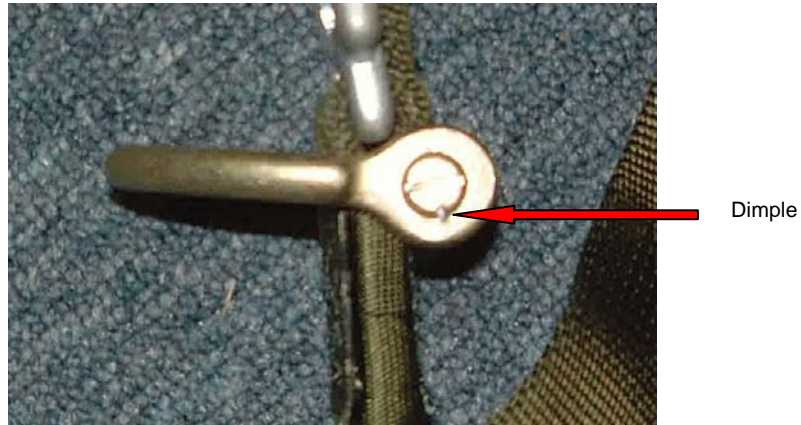

FIGURE 4
(6) Using a flat solid surface, position the tip of the center punch 90 degrees away from (or perpendicular to) the screw pin slot between the screw pin head and the body.
(7) Strike punch with hammer to cause a dimple and a slight flow of metal that will further retain the screw pin as required (Figure 4).